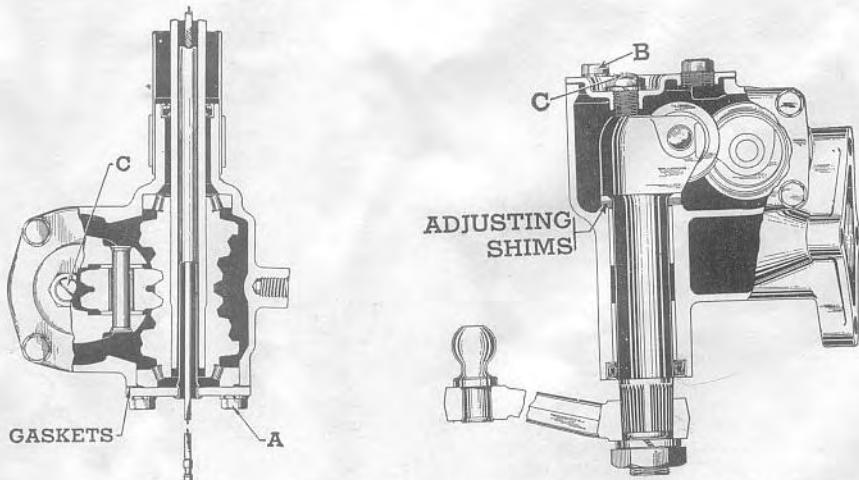

Fig. 53—Steering Gear is of the Integral Housing Type. Wormshaft Bearings and Roller Mesh Should be Adjusted to a Slight Drag as Outlined in Text
**A—Up and Down Play**—Turn steering wheel to either stop then back up  $\frac{1}{8}$  turn. Loosen the worm cover screws "A", Fig. 53 about  $\frac{1}{8}$  inch. Remove one thin gasket, being careful not to mutilate the others.
**B—Roller Shaft End Play**—Turn steering wheel to either stop then back up  $\frac{1}{8}$  turn. Grip hub of roller shaft lever, Fig. 53, and check end play by feel. Adjust to remove all end play by means of the roller shaft adjusting screw "C."